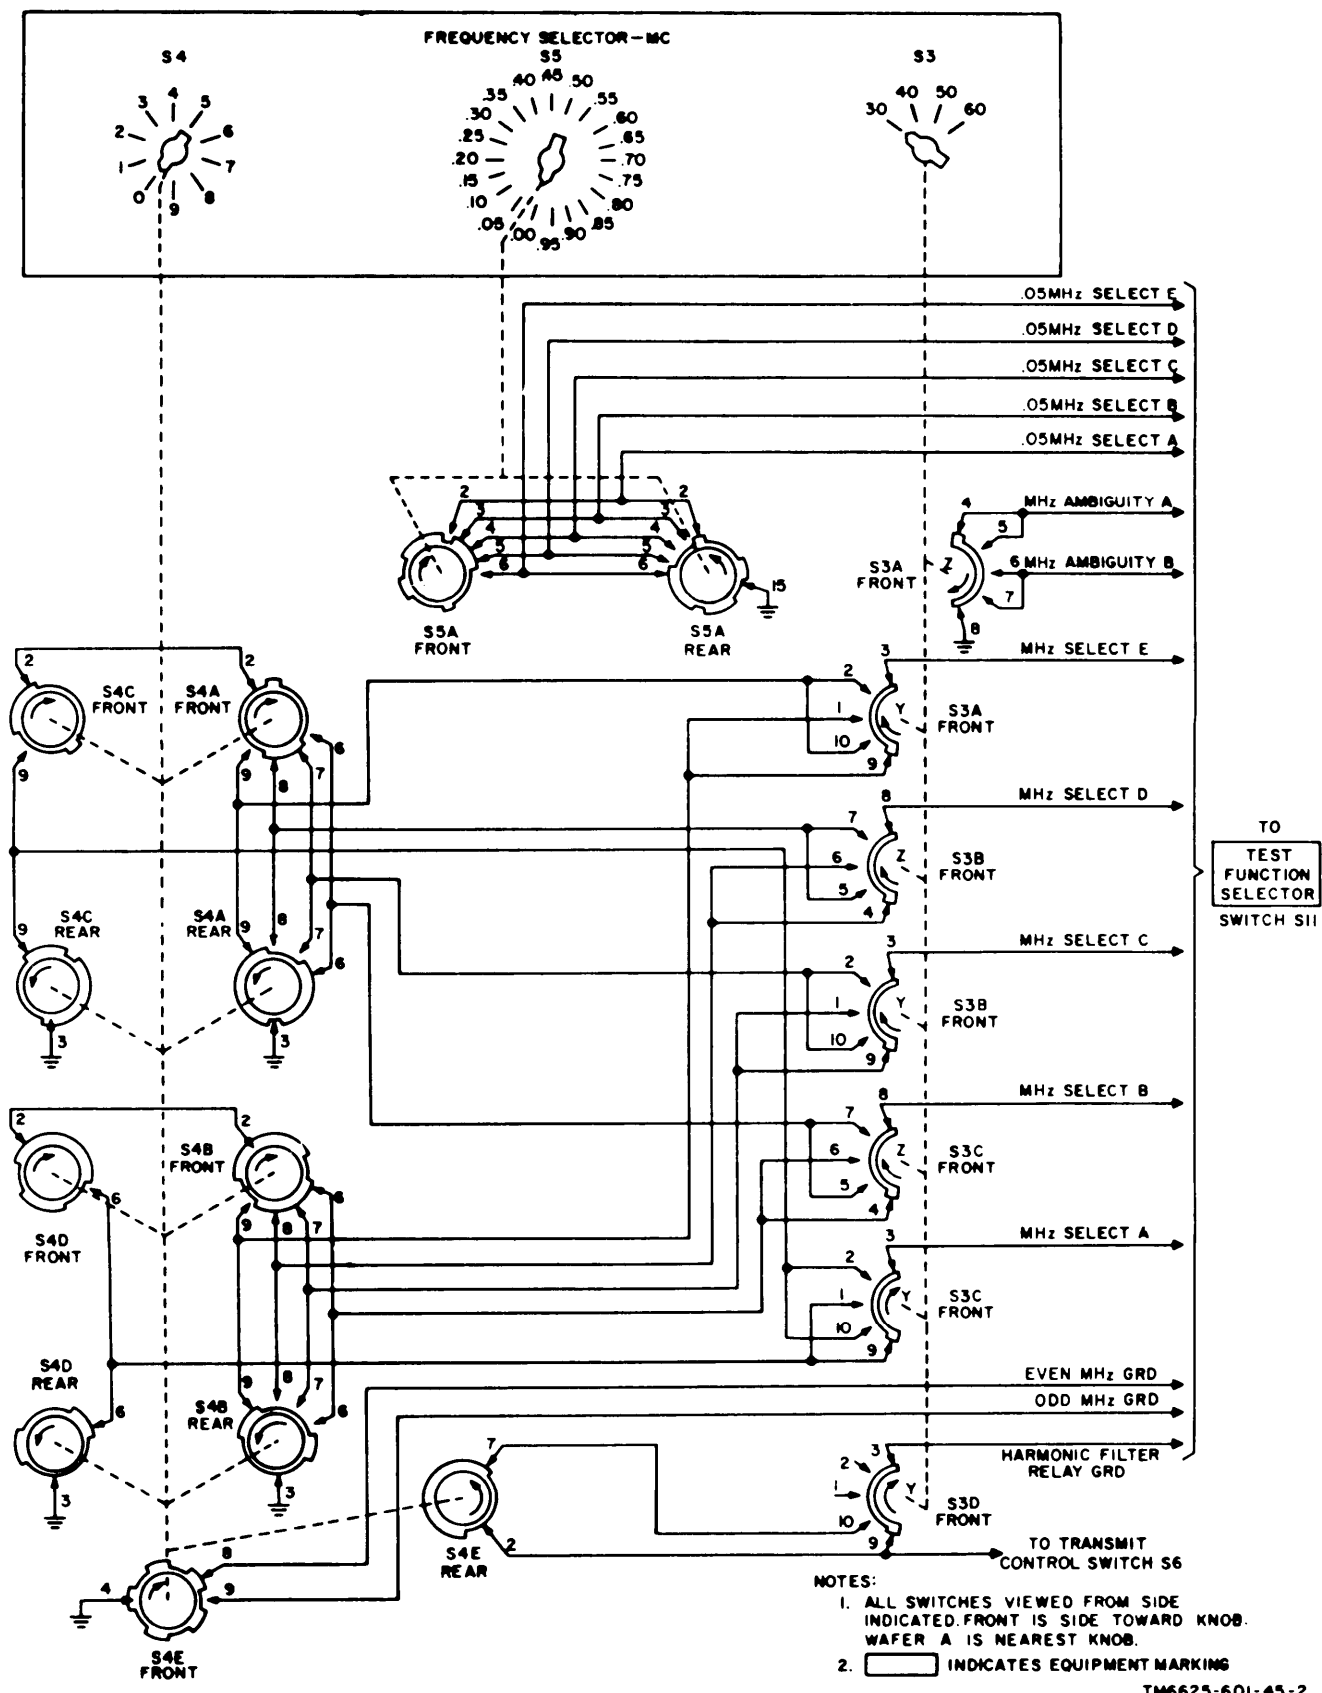
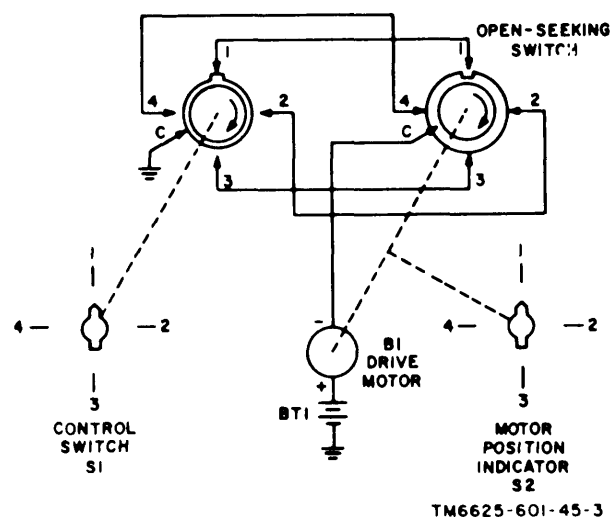

Figure 1-2. Frequency selector circuit, simplified schematic diagram.
Figure 1-3. Simplified four-wire reentrant switch and drive motor circuit.
1-10. Frequency Selection Circuit (fig. 1-2)
b. Simplified Reentrant System. Figure 1-3 is a simplified schematic diagram of a simple open-seeking reentrant system. With the switches in the positions shown, ground is applied through contacts C and 1 of switch S1 to contact 1 of switch S2. Because contact 1 of switch S2 is at the open segment of switch S2, the motor circuit is open. Setting switch S1 to 2 applies ground, through contacts C and 2 of switch S1, contact 2 of switch S2, and contact C of switch S2, to motor B1. Motor B1 operates, turning switch S2 clockwise. When the open segment of switch S2 reaches contact 2, the circuit opens and motor B1 stops. The action described above is the same for any position of switch S1; switch S2 always stops motor B1 at the position selected by switch S1. Note that switches S1 and S2 are physically complementary; this is a characteristic of all reentrant systems. The switching arrangement of the test set frequency selector system, shown schematically in figure 1-2, is more complex than the system discussed above. However, the test set switches provide a basic function similar to that of switch S1 shown in the simple switching arrangement of figure 1-3.
e. *Whole-Megahertz Switching.* Figure 1-2 shows the complete TS-1967/ARC-54 frequency selection circuit. FREQUENCY SELECTOR-MC switches S3 and S4 perform the whole-megahertz tuning from 30 to 69 MHz. Switch S4 generates three sets of codes. One code covers the 30- to 39- and the 50- to 59-megahertz frequency range. The second code covers the 40- to 49- and 60- to 69-megahertz frequency range. A third code identifies odd- and even-megahertz frequencies by applying alternate grounds to the odd- and even-megahertz lines. Sections B and D of switch S4 form a five-wire code generator for the 30- and 50-megahertz frequency ranges. A separate five-wire code generator for the 40- and 60-megahertz frequency ranges is formed by sections A and C of switch S4. Setting switch S3 to 30 or 50 connects five lines from switches S4B and S4D to megahertz select lines A through E. Since the codes for frequencies in the 30- and 50-megahertz frequency ranges are identical,